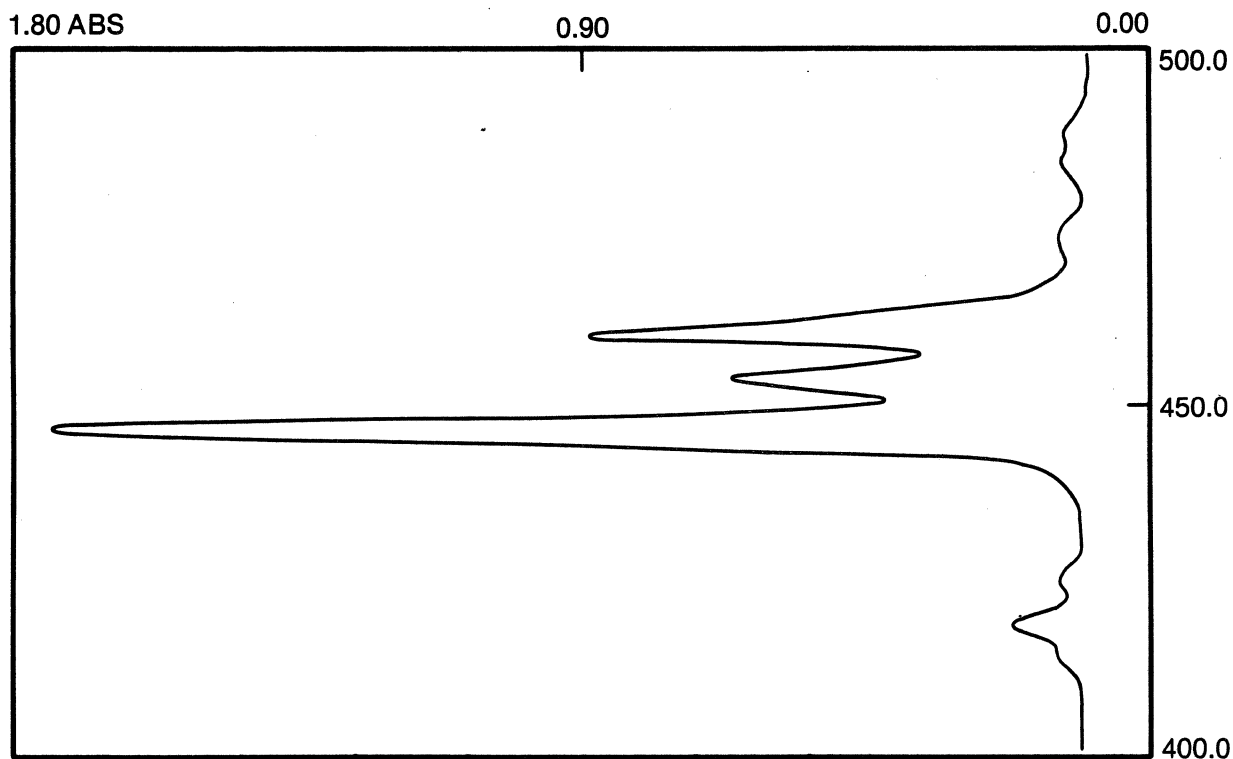

Figure 3-3. Spectral data plotted using Method 1.
7. To produce a header for the spectrum on the printer/plotter, and to obtain a list of the parameters used for the scan, press **Print List**. A sample listing is shown at the top of Figure 3-3. The date will appear on the first line of the header, if the date was entered using Method 53 (see Section 12.2).
11. If an automatic plot was selected, a spectrum will be generated, as shown in Figure 3-3.